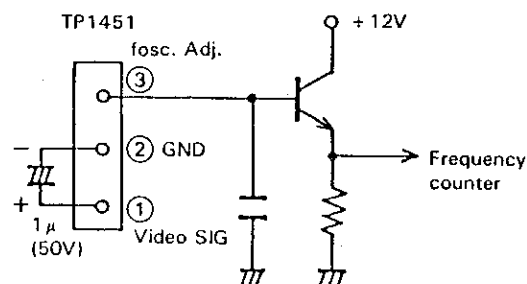

Figure 2-14. Buffer Circuit
1. Connect the frequency counter to pin ③ of TP1451 with a buffer in between, as shown in Fig. 2-14.
2. Add a  $1\mu\text{F}/50\text{V}$  capacitor between pin ① (video signal) and pin ② (GND) of TP1451, as shown in Fig. 2-14.